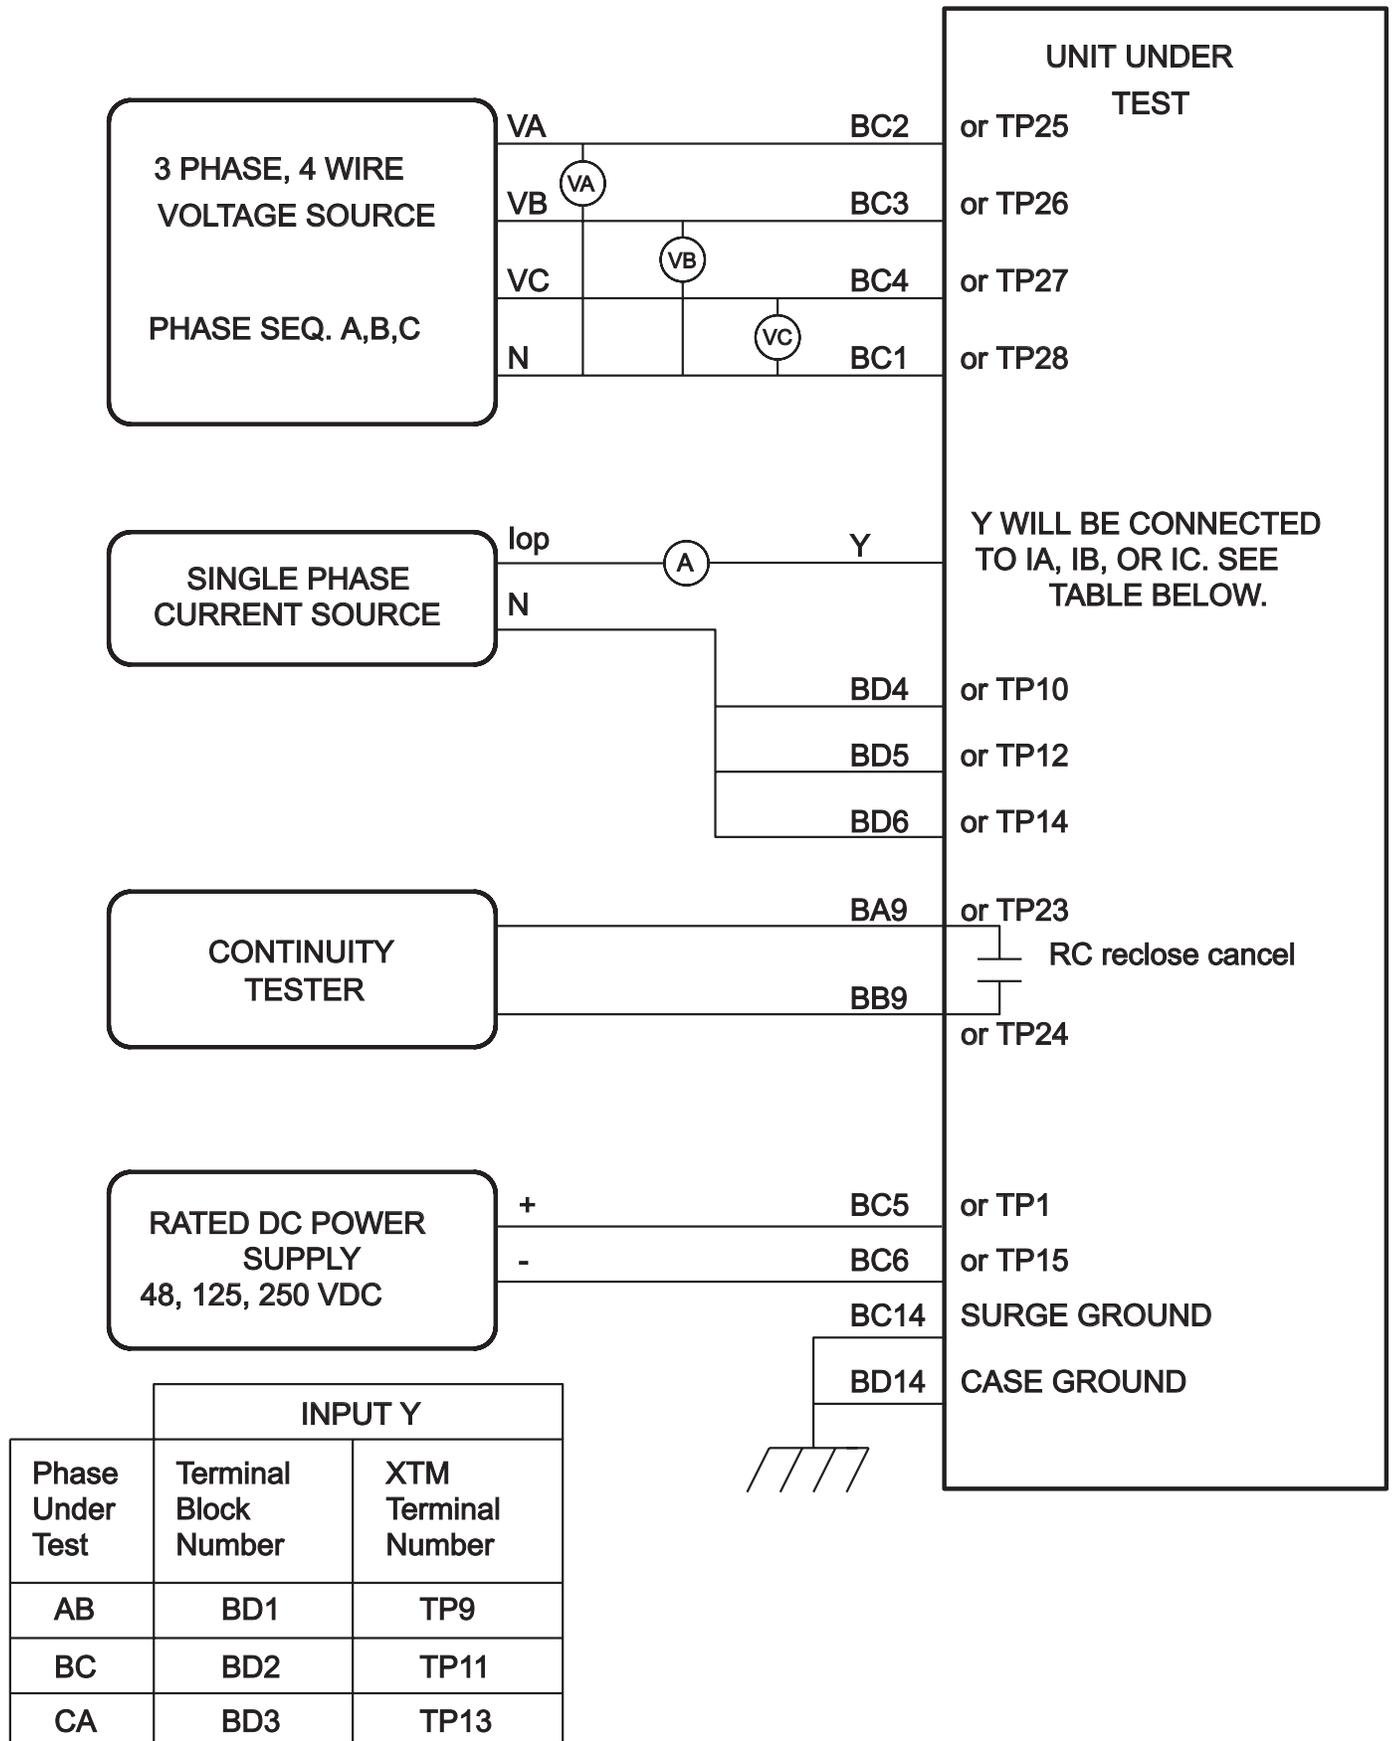

Figure 4-3. (0286A4813, sh. 3) Phase-to-ground test connections.
2. Connect the relay as shown in Figure 4-3.